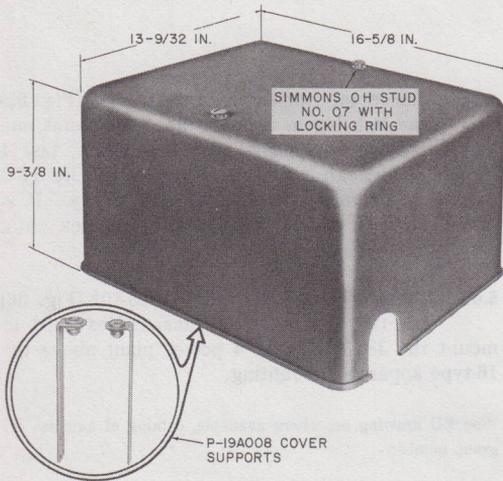

Fig. 26—116A Cover
4.01 The 116A cover (Fig. 26) is designed to enclose: